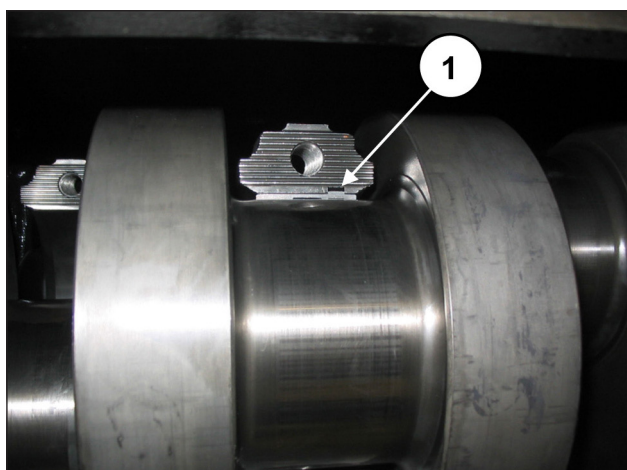

Fig. 58
For proper assembly of the half-bearings, ensure that the reference tab on the half-bearings are positioned in their housing on the half-conrod (pos. ①, Fig. 58).